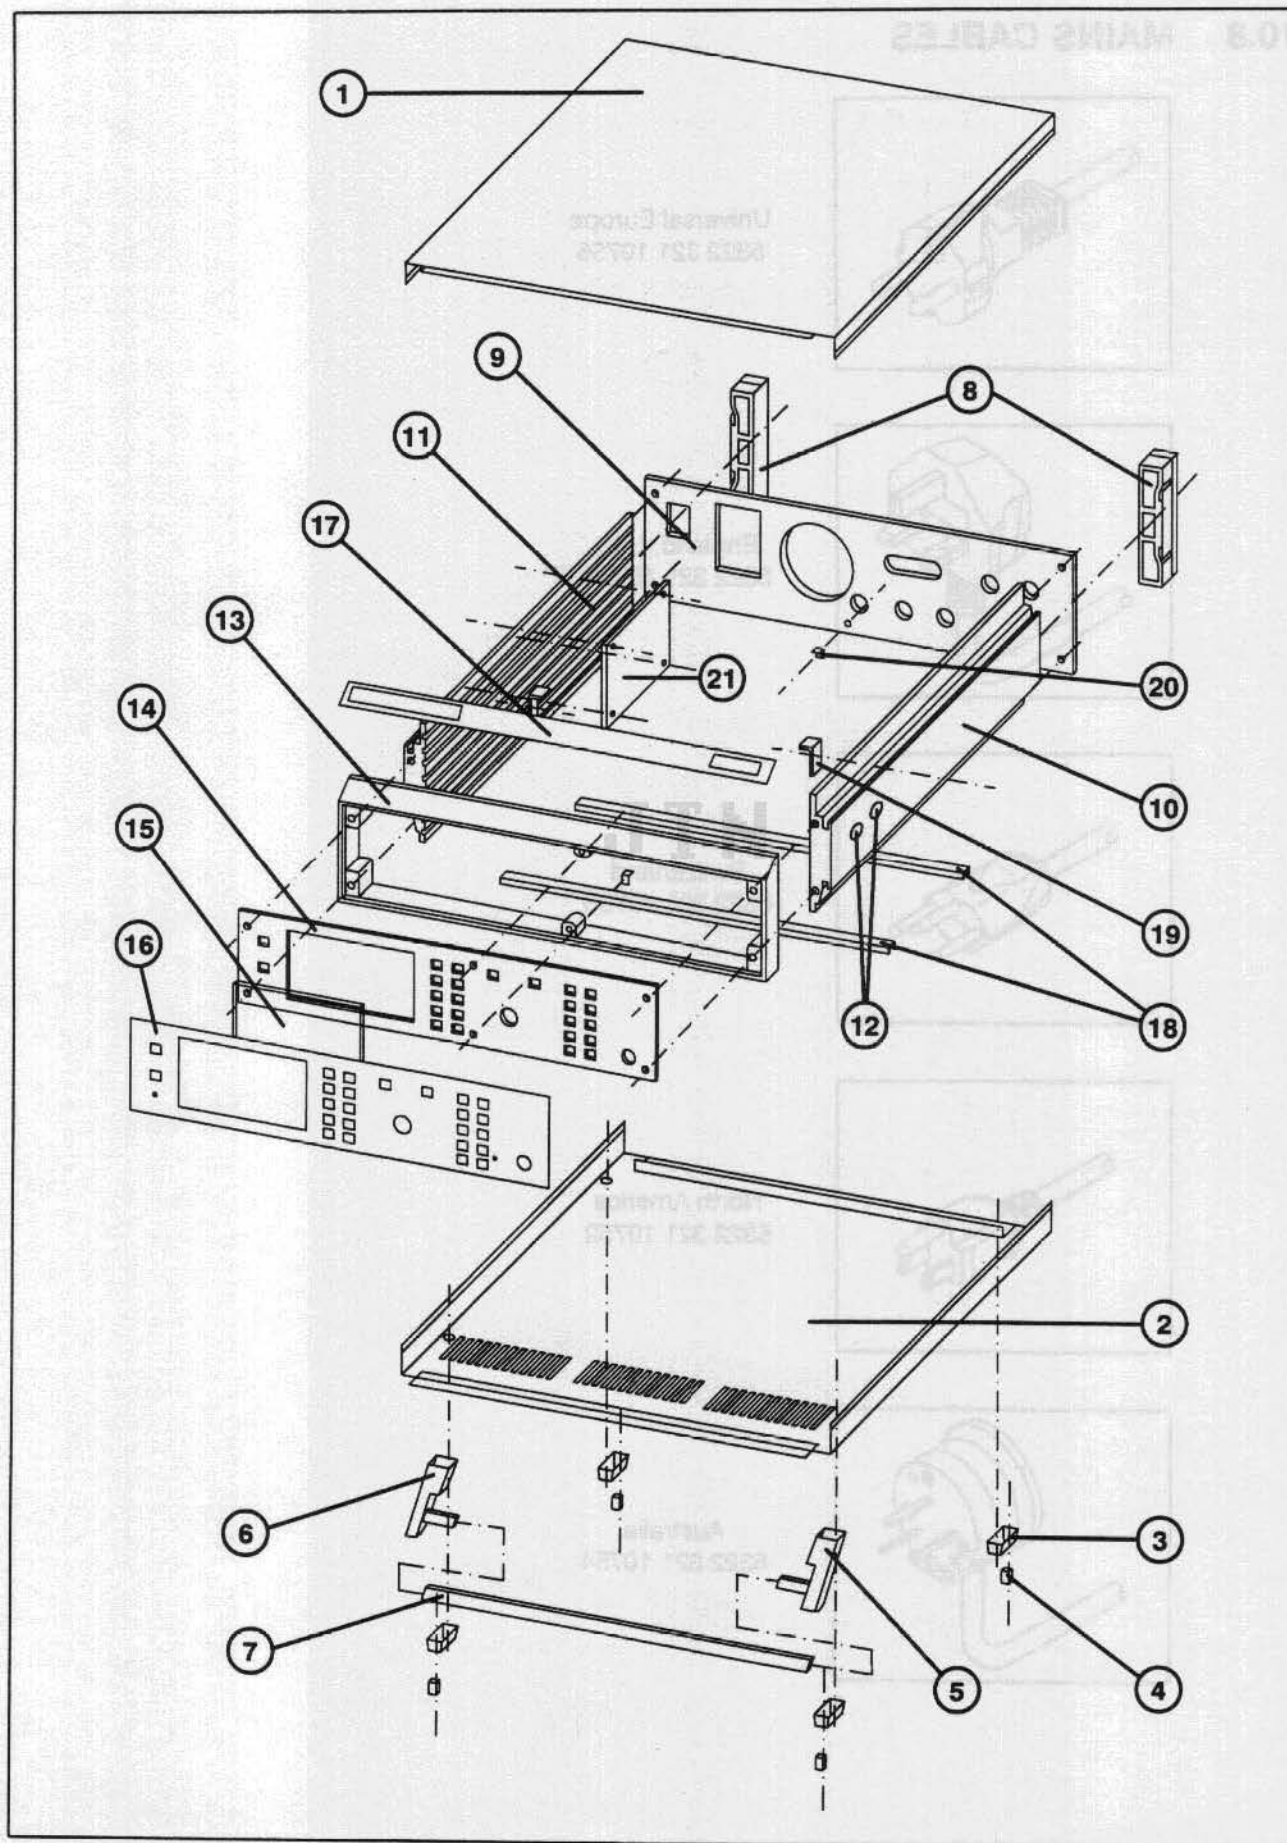

Fig. 30 Mechanical Parts, Housing
10.9 MECHANICAL PARTS, HOUSING (Figure 30)